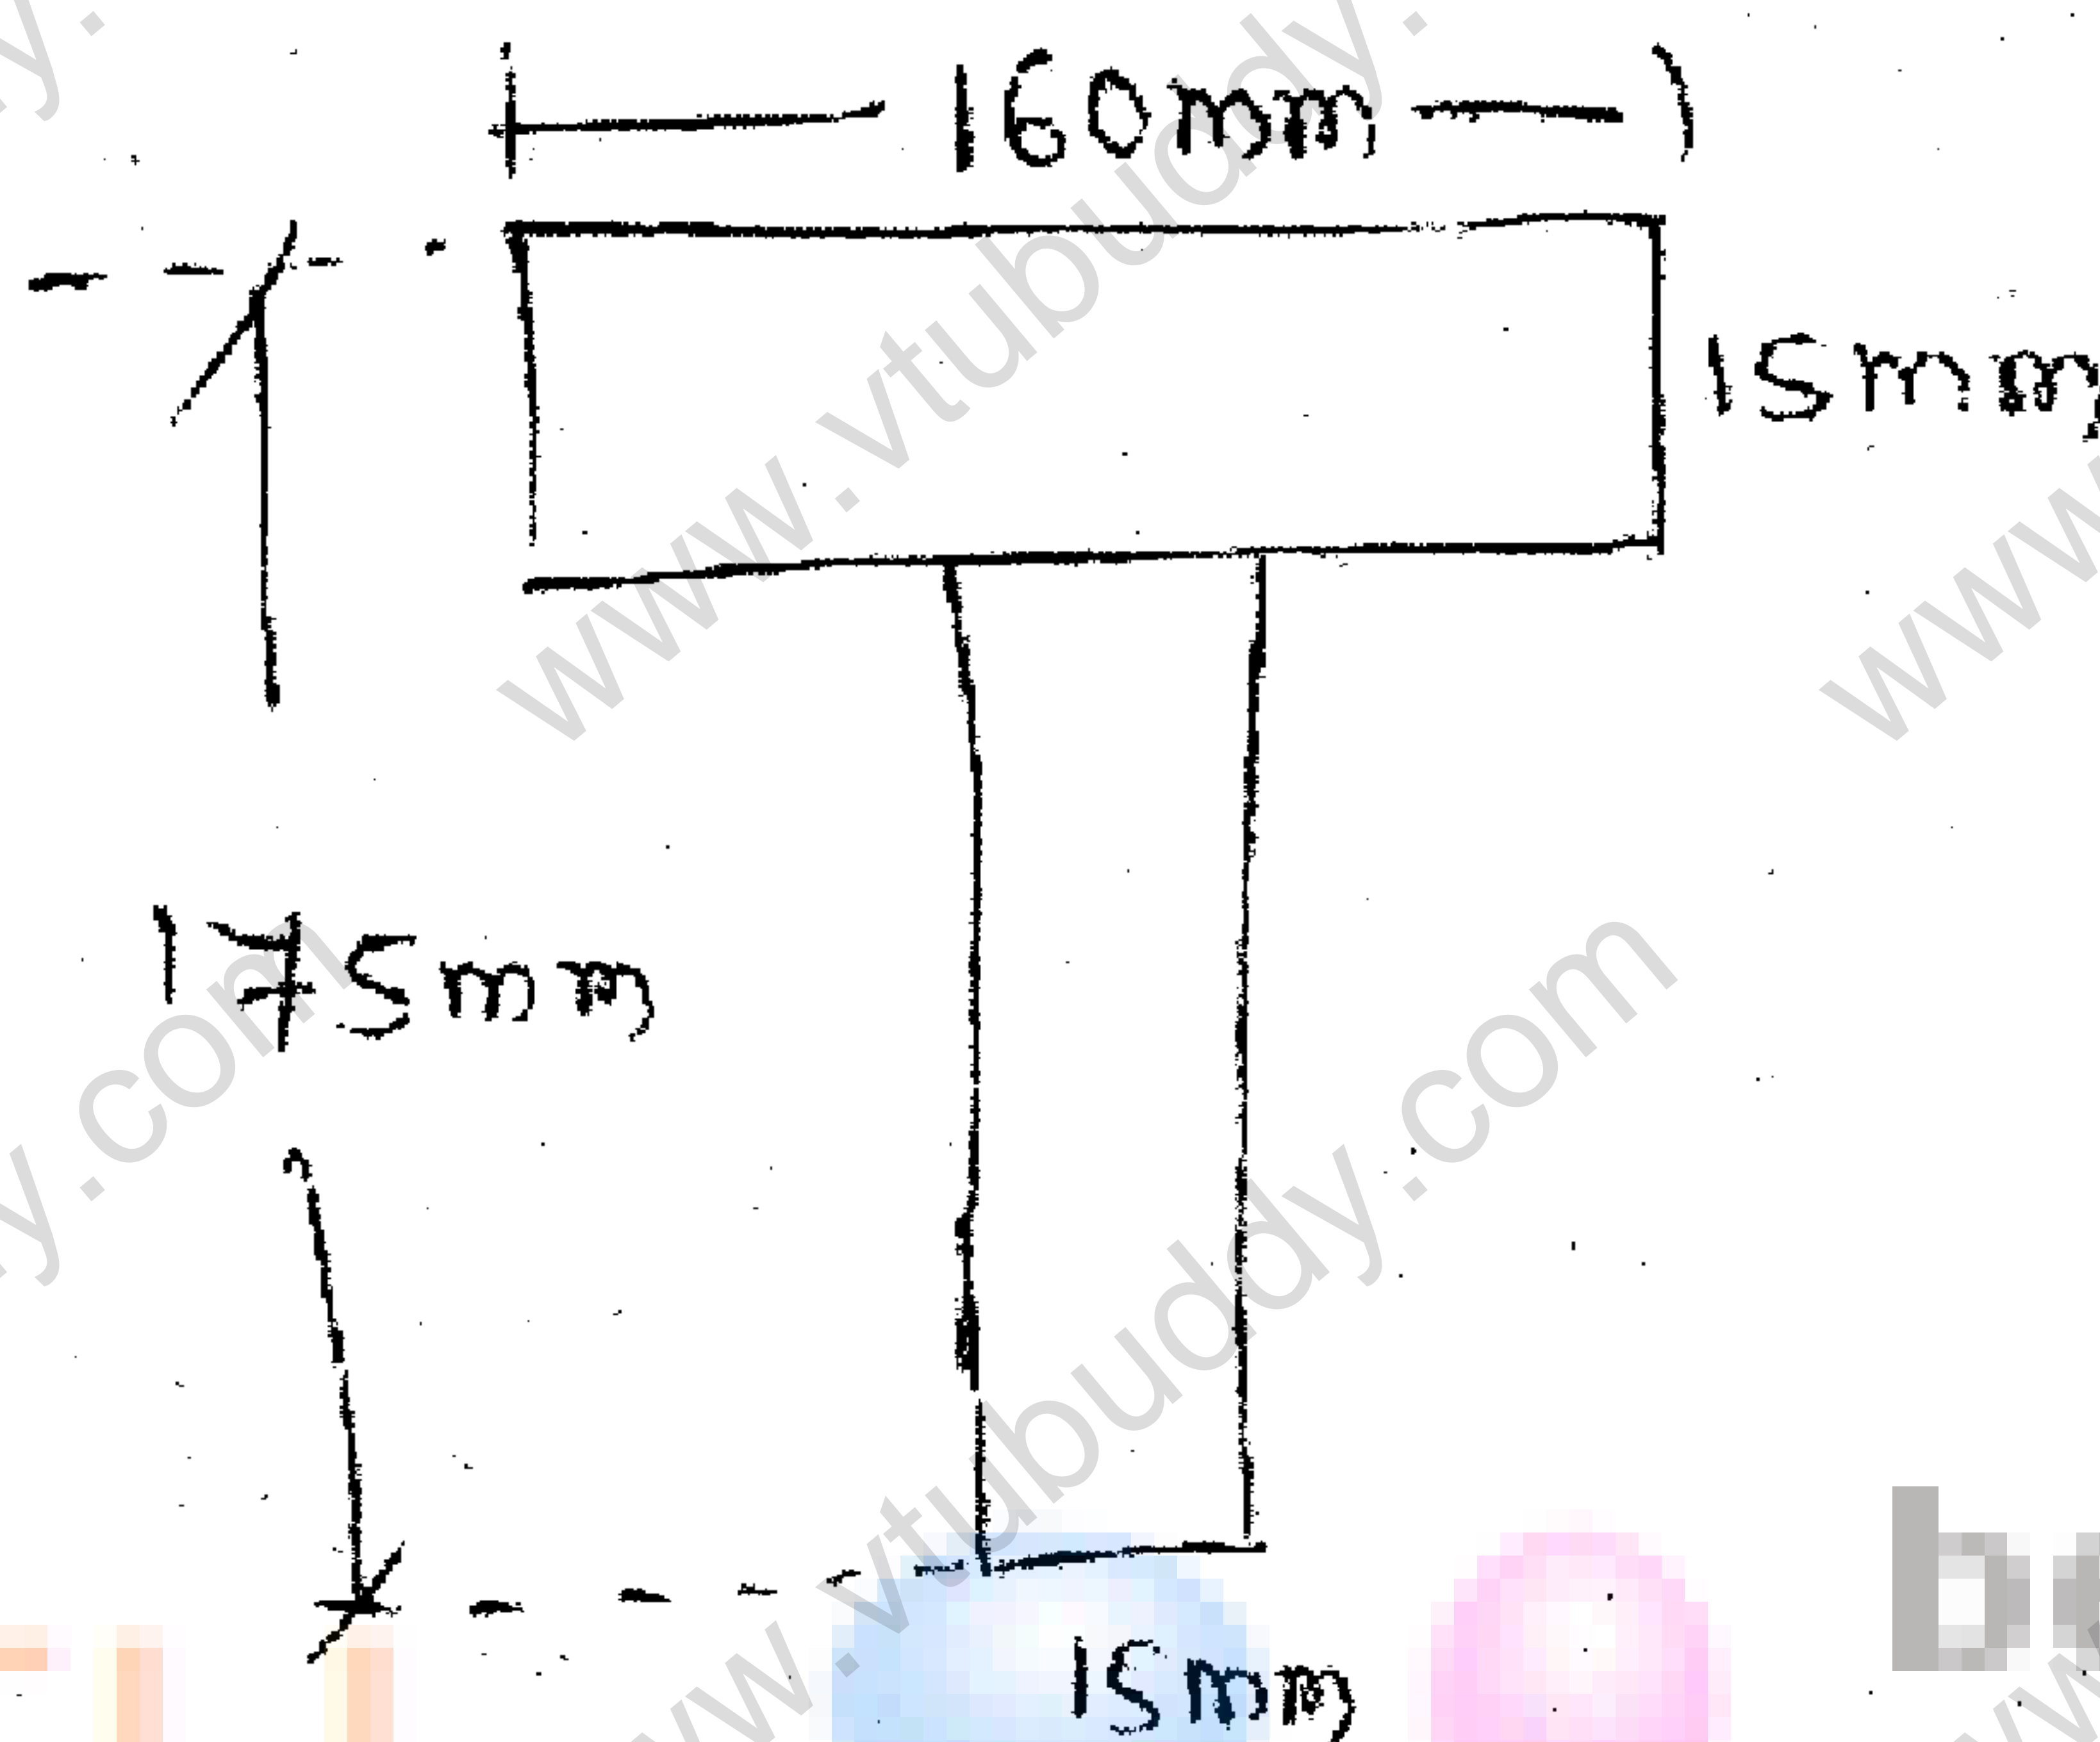

Fig.Q 3(c)
- A cross section of the beam is as shown in Fig.Q 3(c). The shear force on the section is 400 kN. Estimate the shear stress at various points and plot the shear stress distribution diagram.